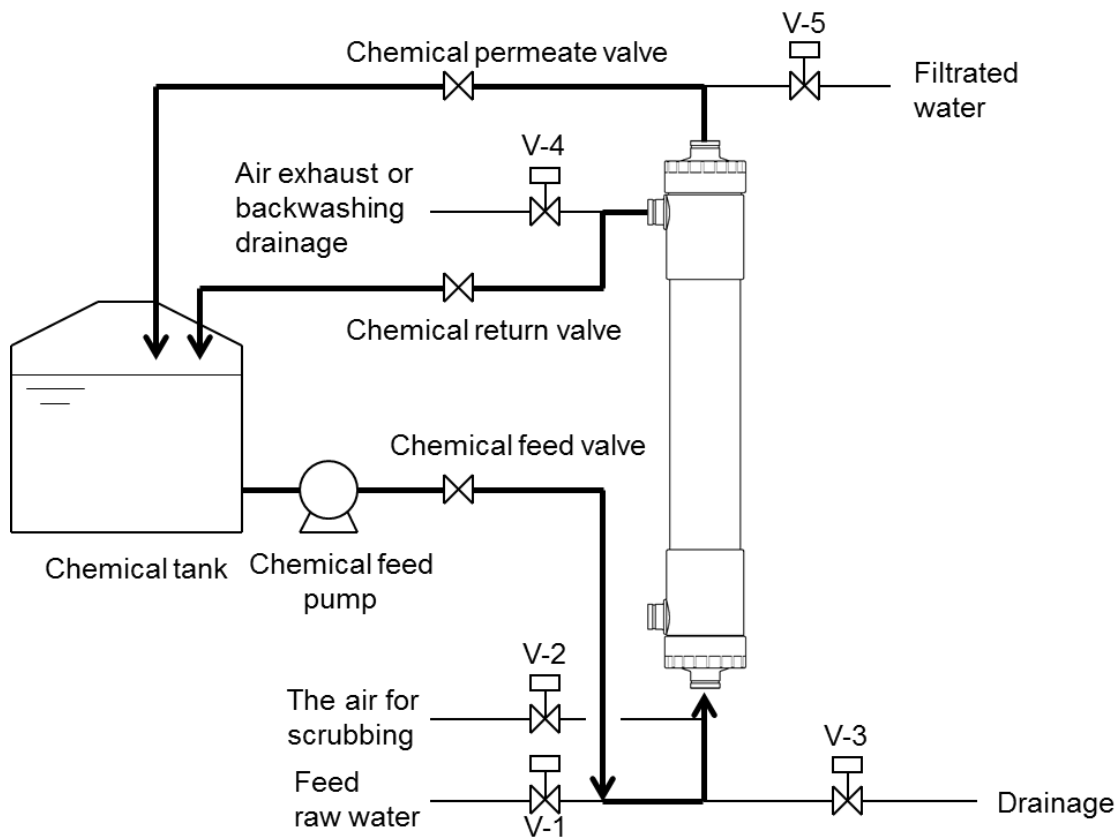

Fig. 7 Flow diagram for chemical cleaning
- (1) The flow diagram for cleaning simultaneously both outer surface and inside of hollow fiber membranes is shown in Fig. 7. The flow diagram can be changed case by case. Please contact us if you need the information in detail.
- (2) Open the chemical return valve and then open the chemical feed valve.
- (3) Run the chemical feed pump to start the circulation of chemical and then open the chemical permeate valve to have the chemical permeate through the membrane.
- (4) Circulate the chemical for a fixed time.
- (5) Stop the chemical feed pump.
(6) Drain the chemical and rinse the cleaning line and the module thoroughly with product water.